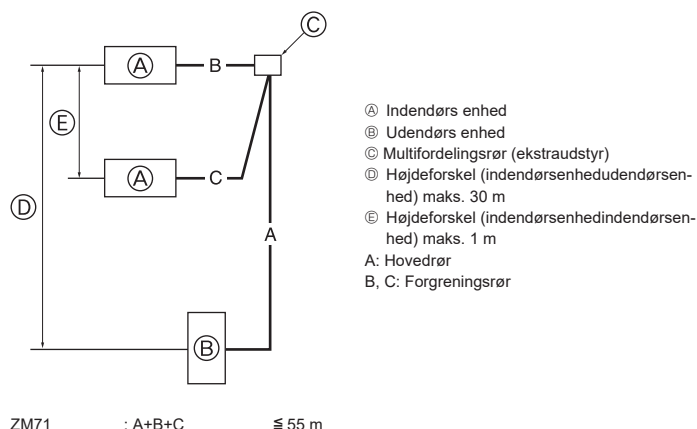

Fig. 4-7
4.8. For dobbelt/tredobbelt kombination (Fig. 4-7)